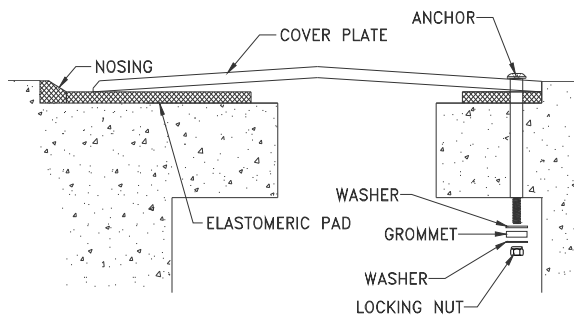

Figure 19
**STEP 40.** From the underside of the deck, slide a washer, a grommet, and another washer onto a bolt and firmly tighten the washer/grommet assembly onto the bolt using the nut provided by the factory. Do not compress the grommet (see Figure 19). Repeat this procedure until a washer/grommet assembly has been attached to each bolt and each cover plate section is fastened firmly in place.